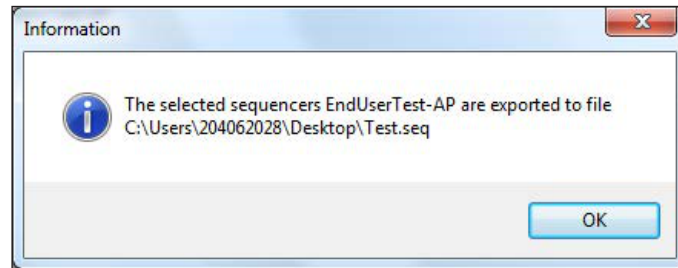

Figure 102 - Sequencer Export File Confirmation
3. Navigate to the target directory, enter a filename, click **Save** and Figure 102 appears.